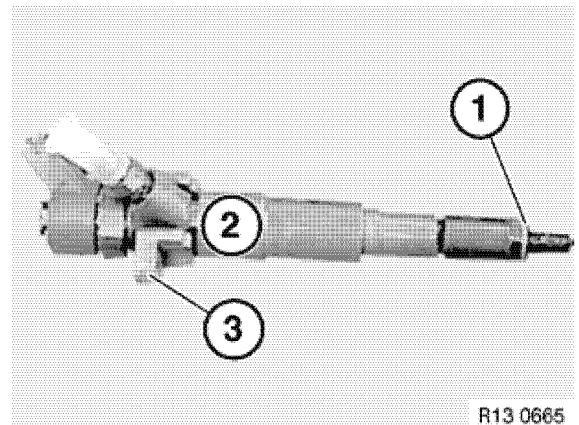

Figure 6-17
- Install new gasket (1, Figure 6-17) on tip of injector (2, Figure 6-17).
- Place the retainer (3, Figure 6-17) on the injector as shown.